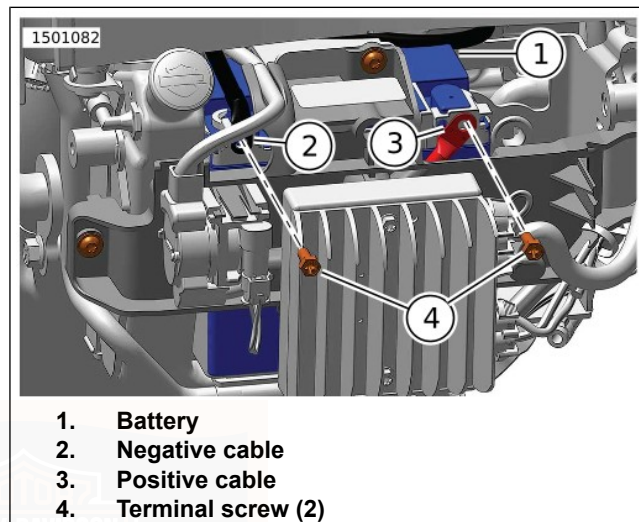
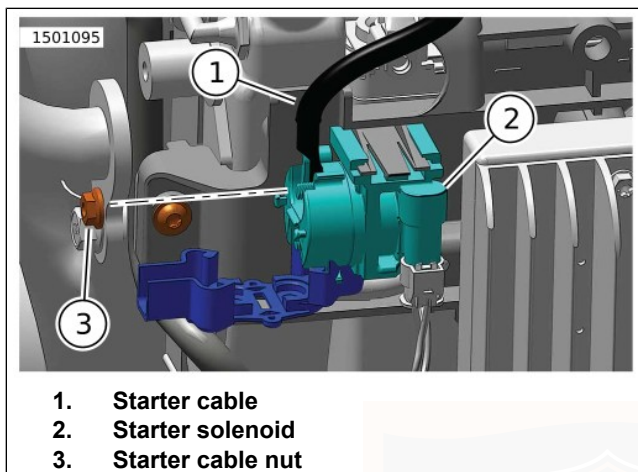

Figure 57. Battery Cables
Figure 58. Starter Cable
2. Figure 57 Remove battery negative cable (2) from battery (1).
3. Remove battery positive cable (3) from battery.
4. Figure 58 Remove starter cable (1) from starter solenoid (2).
4. Figure 57 Install battery positive cable (3) to battery. Tighten.
6. Figure 58 Install starter cable (1) to starter solenoid (2). Tighten.